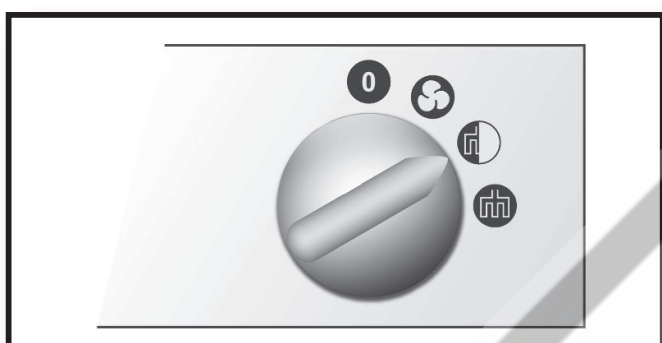

Fig. 6
- 1st degree of heating: Fig. 6, and